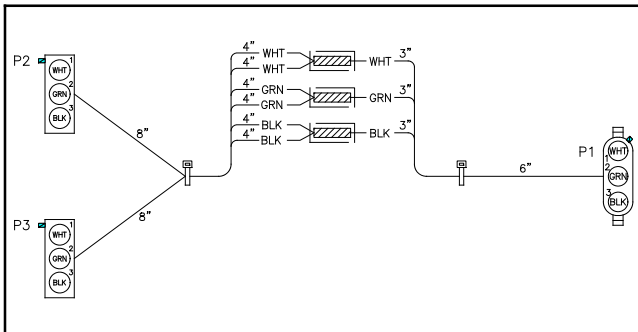

Figure 10 Adapter Harness GM88995 for two 240 Volt Accessories
- a. Connect P1 of adapter harness GM88995 to the 3-pin power connector. See Figure 10.